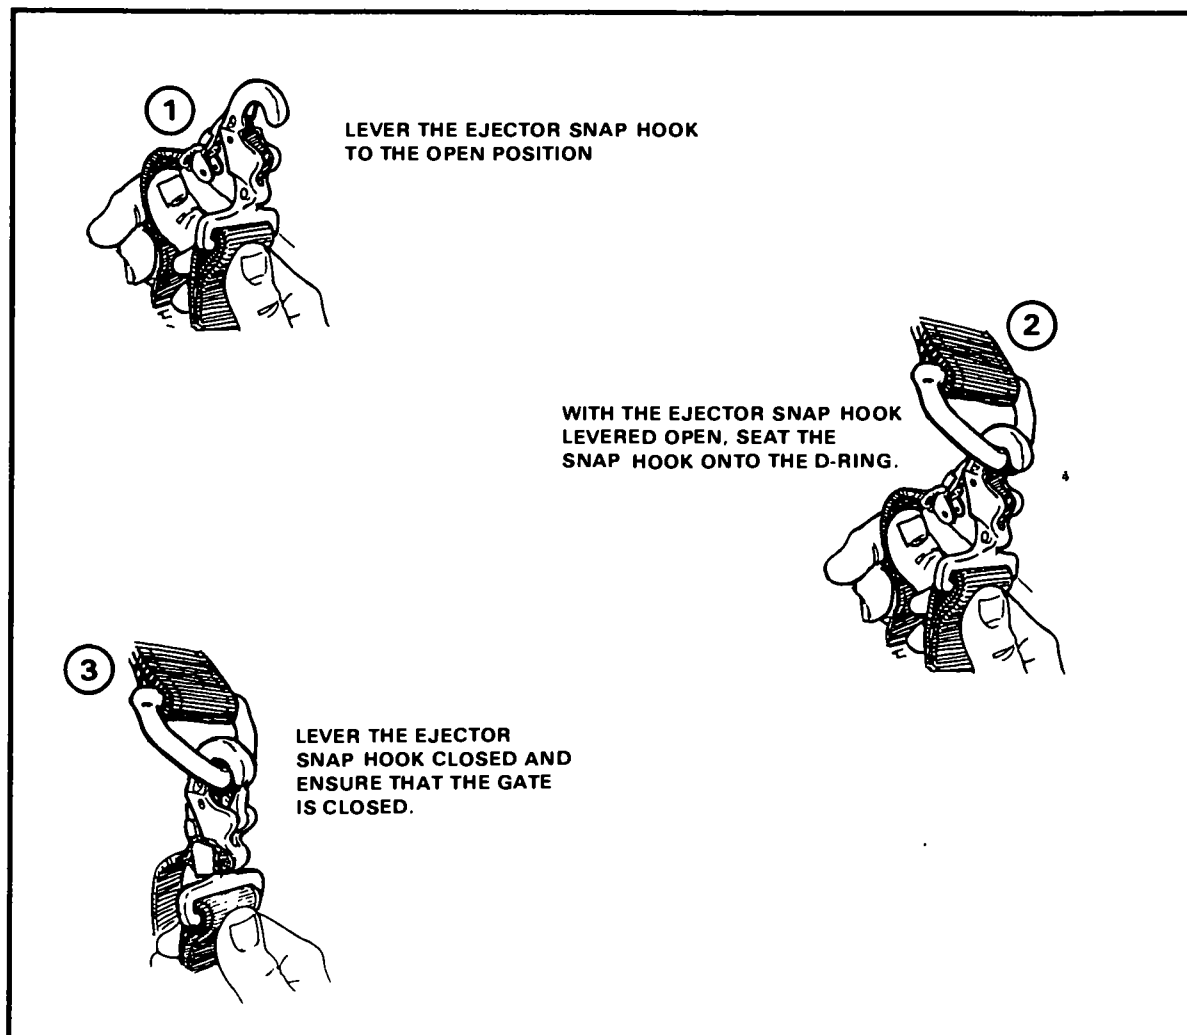

Figure 6-8. Quick-ejector snap connected on HPT lowering line to D-ring on the parachute harness.
(3) Attach the HPT lowering line quick-ejector snap to the accessory attaching ring on the lowering line adapter web (Figure 6-8).